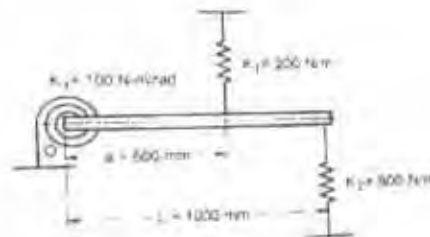

Fig. 2
- 5 a Determine the natural frequency of vibration for a system in Fig. 2. Take mass of the beam as 5 kg 08